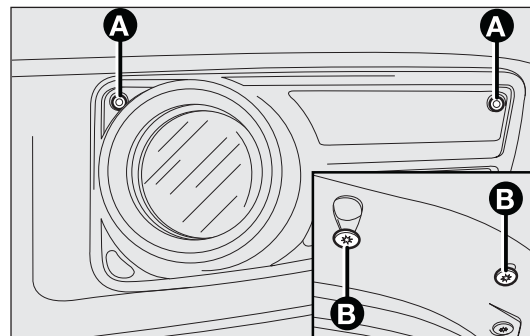

fig. 149
- ☐ undo the two screws A and B-fig. 149 for fog light fastening on the bumper and take out trim and fog light, disconnecting the connector;